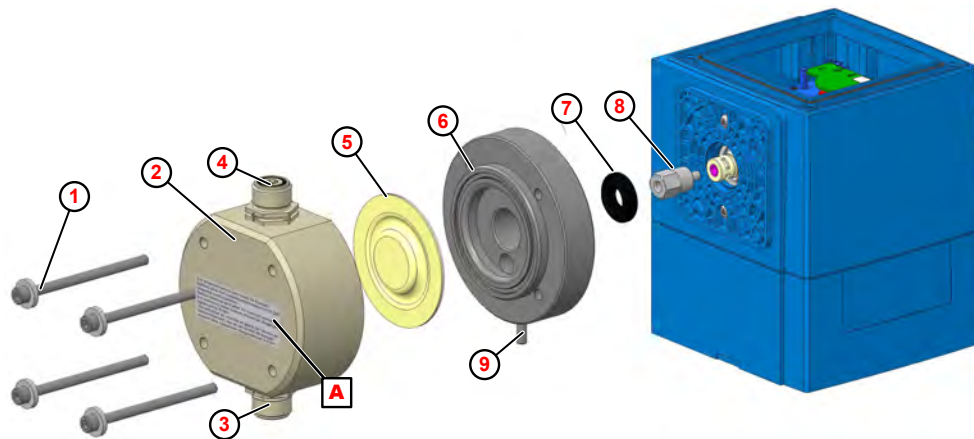

Fig. 24: Replacing the pump head, diaphragm and protective diaphragm
1. ➤ Unscrew and remove the suction and pressure valve (Fig. 24 , ③ and ④).
2. ➤ Loosen and remove the pump head screws ① .
3. ➤ Remove pump head ② .
4. ➤ Unscrew and remove the diaphragm ⑤ .
5. ➤ Remove the intermediate plate ⑥
6. ➤ Remove the protective diaphragm ⑦ .
8. ➤ Place the intermediate plate so that the diaphragm rupture outlet ⑨ points downward.